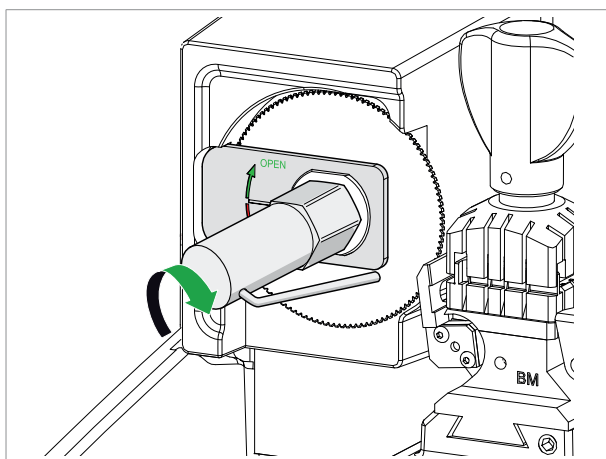

Fig. 146
- 4) Use the pipe wrench (provided) to UNSCREW THE NUT (F2) CLOCKWISE (Fig. 146). **ATTENTION: THE THREAD GOES LEFT.**